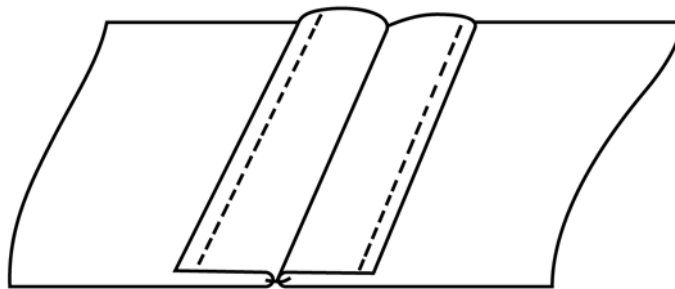

FIG. 4 Edge-Stitched Seam Finish from Back Side of Fabric
**edge-stitched seam finish**, *n*—*in home sewing*, a seam finish in which machine stitching is placed close to the cut edge of each seam allowance. (Compare **zigzagged seam finish**.) (See Fig. 4.)